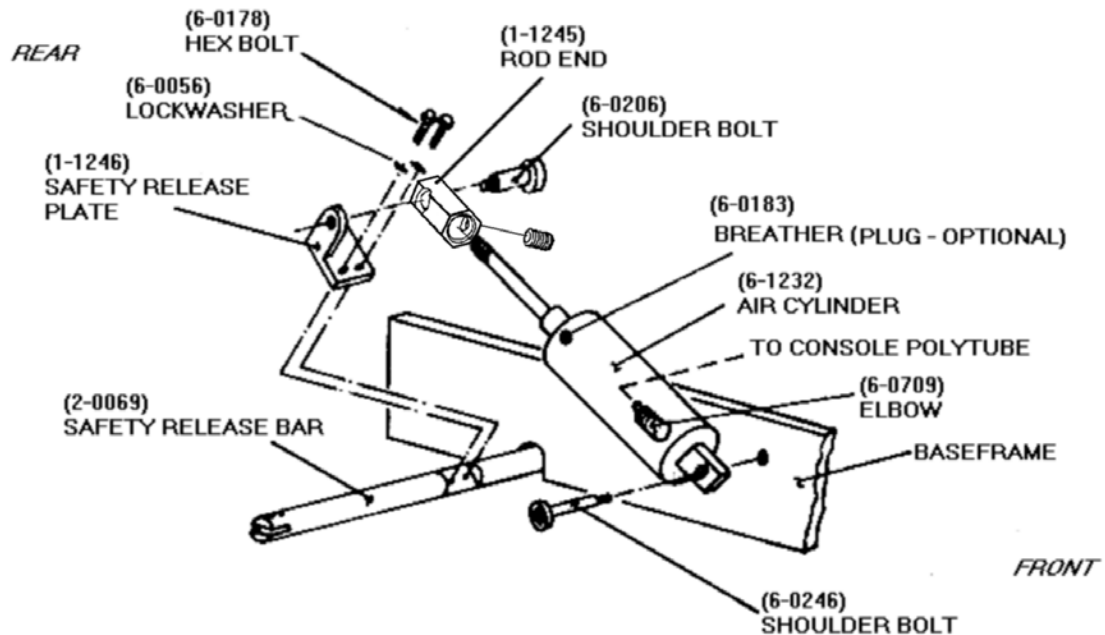

Figure 7 – Air Operated Mechanical Safety Release (Left Baseframe)
3. Install the rectangular safety release tab using one (1); 1/4" - 20UNC x 3/4"lg. cap screws. The safety release tab screws to the surface of the safety release rod located under the mechanical safety locks.
4. Using Figure 7, attach the rod end to the air cylinder, and assemble it to the safety release plate using the shoulder bolt supplied in the hardware kit. Connect the safety release plate to the safety release rod using two (2) hex bolt and lockwashers.
5. Assemble the breather and 90° elbow to the air cylinder as shown in Figure 7. Attach the air cylinder to the baseframe using the shoulder bolt provided.
1. Route the 30' polytube next to the hydraulic hoses to the inlet of the lift, through the left baseframe assembly and into the 90° elbow attached on the air cylinder. Refer to Figure 7.
4. **FOR THOSE UNITS EQUIPPED WITH SLIDING JACK BEAM(S) NOW IS THE TIME TO INSTALL THE JACK(S).** Lower lift and consult instructions supplied with each Jacking Beam. Make sure to disconnect air supply before removing 1/4" NPT plugs and installing coil hoses for Jack Beam(s).